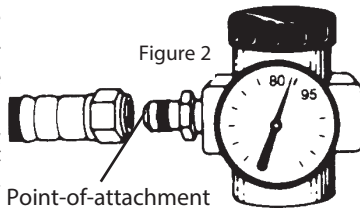

Figure 2
4. Adjust the air pressure at the point-of-attachment (Figure 2) to within the approved pressure range. See the Respirator Breathing Air Pressure table in the respirator user manual.